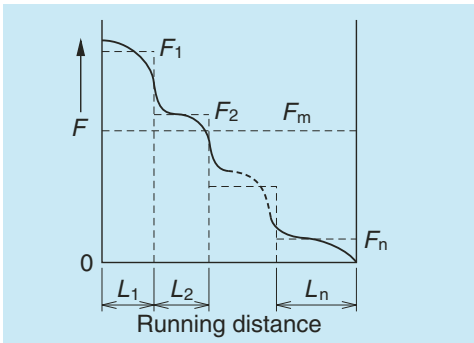

Fig. 2.3 Stepwise load change
##### (1) When load and running distance vary stepwise (Fig. 2.3)